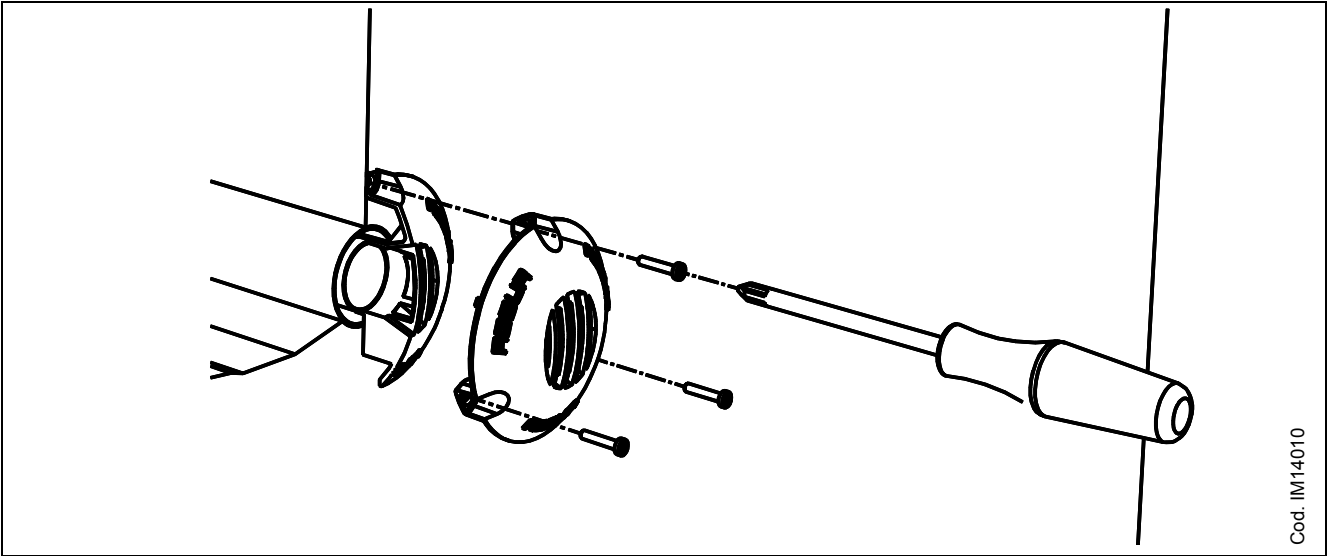

Figure 23 - TERMINAL GRID INSTALLATION
21. When installation is complete proceed with the location of the aluminium terminal grid to the external wall. The terminal grid should perfectly match the pipe end. Draw the location of the three holes for the screw anchors (see Figure 23). The exhaust fumes grid must be installed vertically
23. Relocate the terminal and fix it with the screws (see Figure 23).